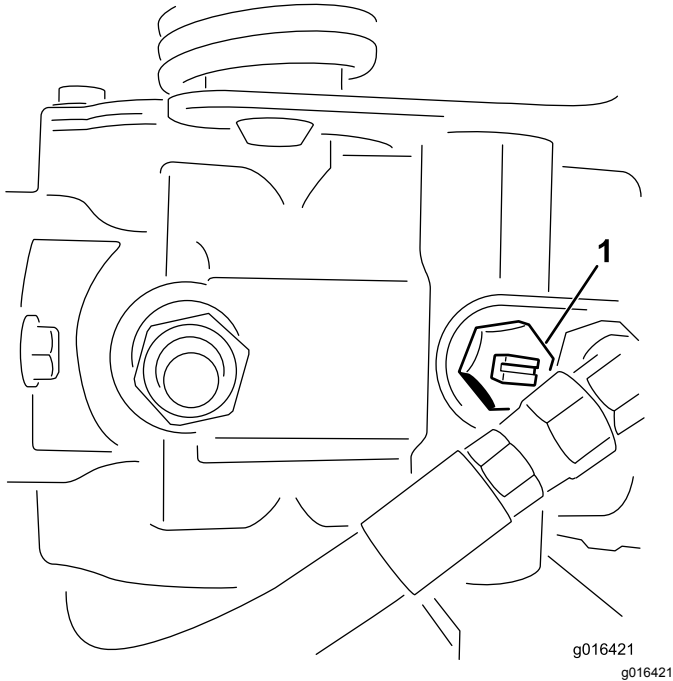

Figure 26
1. Locate the bypass valve on the pump and rotate it counter-clockwise 2 full turns (Figure 26).
2. Before starting the engine, close the bypass valve by rotating it clockwise 2 full turns (Figure 26).